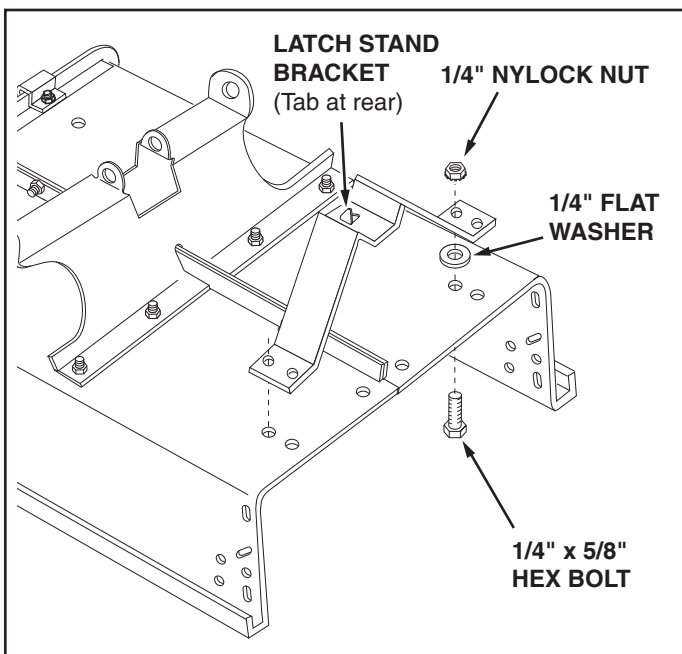

FIGURE 5
- To prevent accidental tipping during the following assembly procedures, lower the cart to rest upside down, with the wheel support facing up, as shown in figure 5.
- Align the latch stand bracket so that the tab is at the rear. Fasten the bracket to the rear set of holes at the front of the cart using two 1/4" x 5/8" hex bolts, 1/4" flat washers and 1/4" nylock nuts. Use the 1/4" flat washers as shims between the bracket and the cart bed. **Make finger tight.** See figure 5.
- **Tighten** the two bolts that you assembled to the latch stand bracket in figure 5.